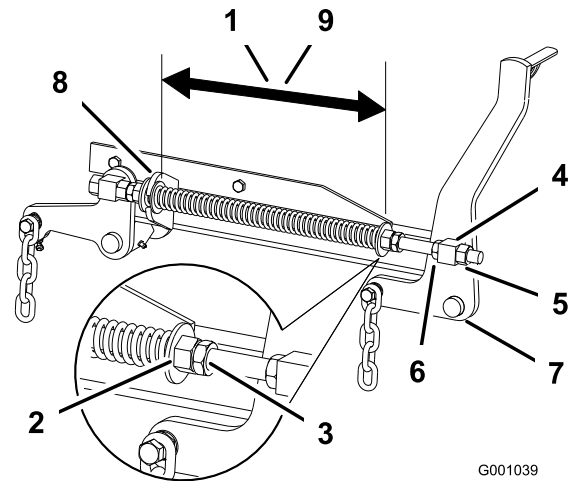

Figure 86
2. Check the distance between the two large washers, it needs to be 28.2 cm (11-1/8 inches) for 52 inch mower decks and 26.7 cm (10-1/2 inches) for 60 inch mower decks (Figure 86).
4. Lock the nut into position by tightening the spring jam nut (Figure 86).